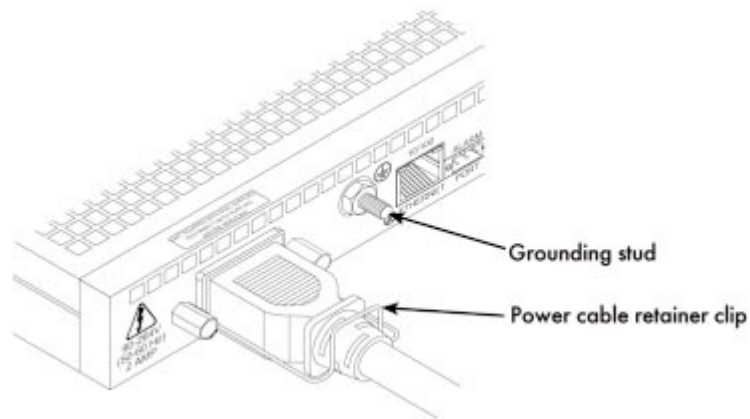

Figure 6. Power cable retainer clip
2. Rotate the power cable retainer clip so it secures the power cable plug in the IEC-320 connector as shown in figure 6.
2. Install the ground wire between the grounding stud (see figure 6) and the grounding source.